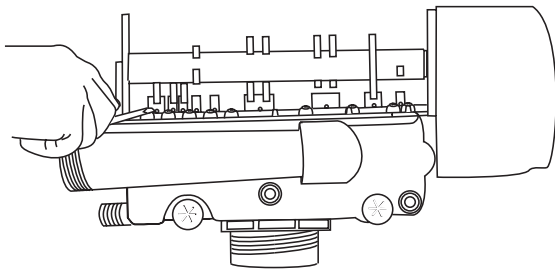

Figure 9
3. Remove cover and with screwdriver, relieve tank pressure by pushing open valve No. 7 (rear flapper) on control as shown (Figure 9).
3. Relieve system pressure by opening valve No. 7 (at rear) with a screwdriver (Figure 9).
2. Relieve pressure by opening the Backwash Drain Valve (the seventh back from the control) with a screwdriver (Figure 9).